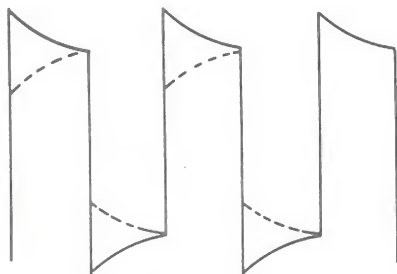
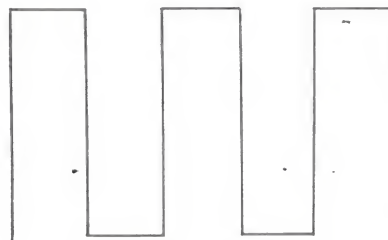

Fig. 6 DISTORED
Fig. 7 GOOD
- 5) If the square wave is distorted as Fig. 6, adjust the trimmer of the probe till it becomes a good square wave as Fig. 7.